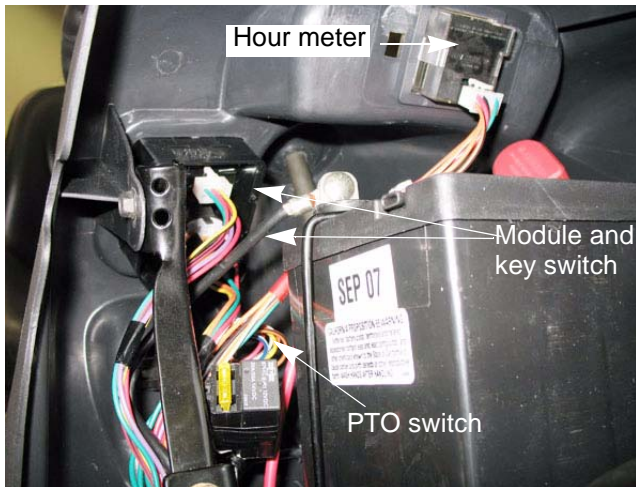

Figure 4.9
- 2a. Disconnect the key switch, module, PTO switch and the hour meter. See Figure 4.9.